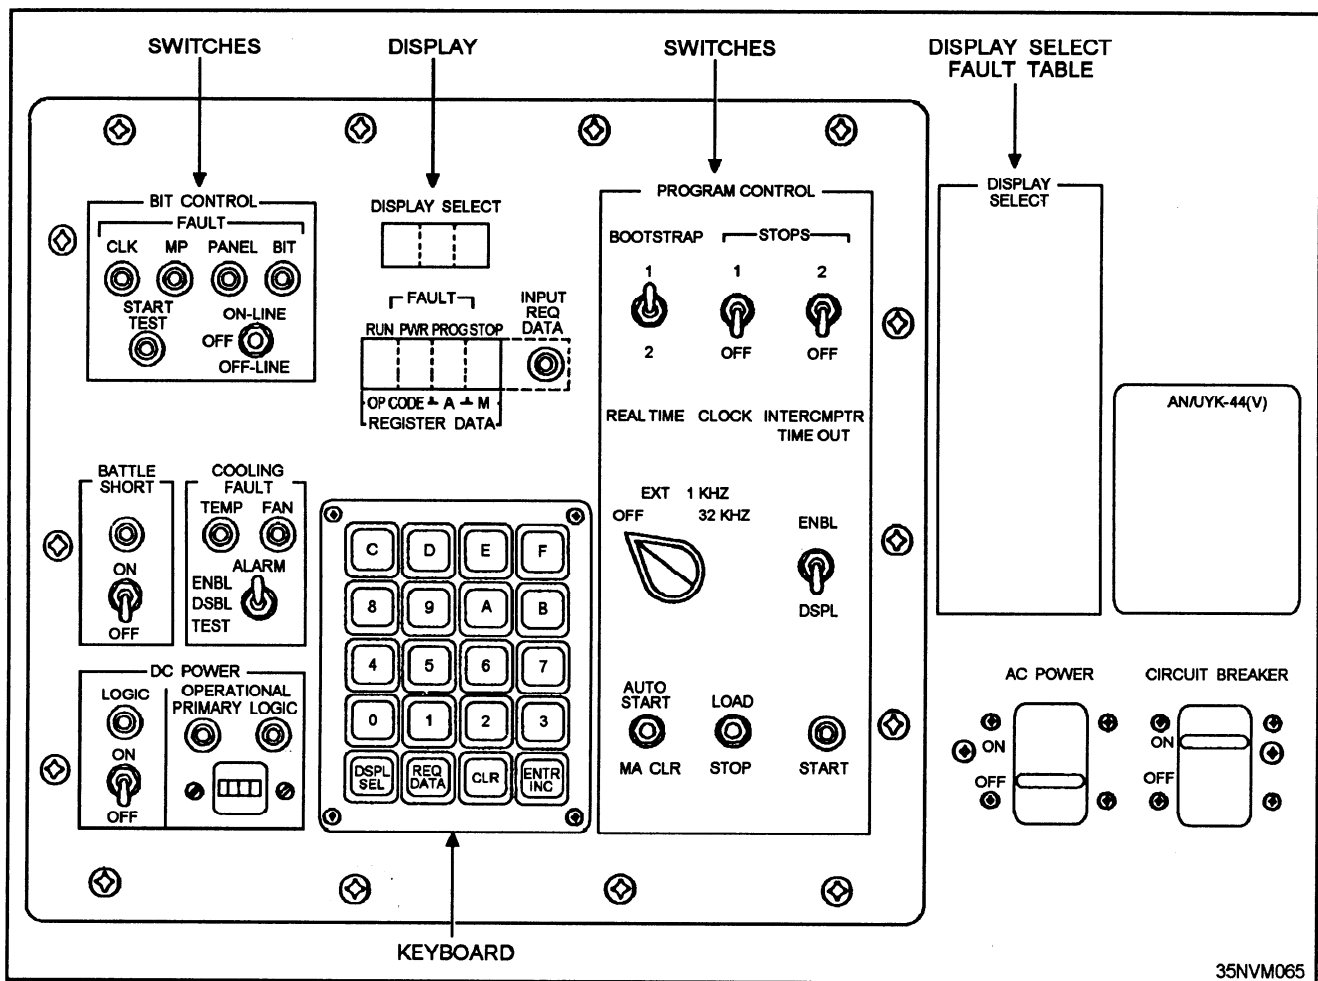

Figure 8-26.—Power up switches located on a maintenance control panel.
**APPLY POWER.** —Applying power to militarized minicomputers is somewhat more complicated than with commercially available micros. There can be a number of switches to power up the computer (fig. 8-26). Usually there is a remote panel that supplies power. Then at the unit itself there maybe a number of switches. Some use a circuit breaker that must be on before any of the other power switches will operate. Once the circuit breaker has been turned on,
have two panels, others one panel. When two are used, one panel is used for control and the other for maintenance. When one panel is used, the control and maintenance functions are located on the same panel. Refer again to figure 8-26. The panels on some minicomputers can be likened to the keyboard of a microcomputer; they deal primarily with the operating system and software programs. But with some minicomputers, you have more options. They include controls and indicators that deal with power and temperature. These two conditions were included in the apply power man/machine interface.
In addition to a number of control switches and indicator lamps, some minicomputers use a keyboard for data entry and numeric displays to show the contents of registers or display status. This is also illustrated in figure 8-26.
**EXECUTE BOOTSTRAP.** —Minicomputers are normally designed to boot or initially load the operating system program using a hardwired module (NDRO) located in the CPU. The NDRO is tailored at the factory and will select a particular peripheral device (disk, tape, and so forth) based on the position of the bootstrap switch located on the computer's controlling panel. Figure 8-26 shows a maintenance control panel with a bootstrap switch with two positions (1 or 2). The bootstrap program allows a more comprehensive program to be loaded from the selected peripheral into main memory and be executed. NDROs are also designed to perform a BIT, fault analysis program, or load a failure analysis program. To execute bootstrap, depress the run or load switch.